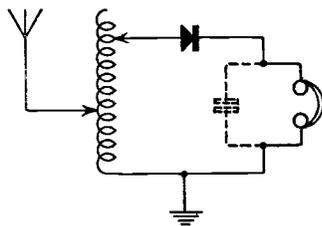

Fig. 1.
**P**ROVIDED that the sliding contacts are of efficient design, the double circuit type of crystal set illustrated in Fig. 1 is capable of giving excellent results. Essentially the tuner consists of an aerial circuit and closed secondary circuit, across which the crystal and telephones are connected. The same coil is used for both circuits, so that the coupling is necessarily very close. Under favourable conditions a step-up of voltage is obtained across the crystal and telephone circuit, with a consequent increase in signal strength.